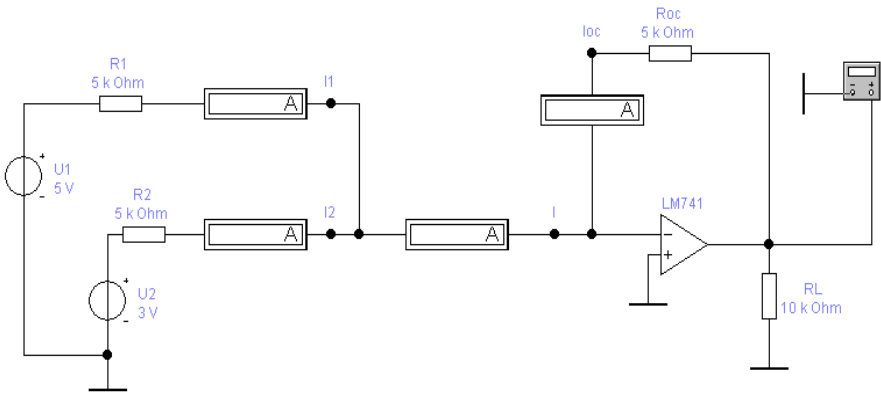

Figure 5.3 – Schematic of adding amplifier
In the summing amplifier fig. 5.3, if the input currents and bias voltages are equal to zero, then the following ratios are performed:
7. Draw a diagram of fig. 5.3.